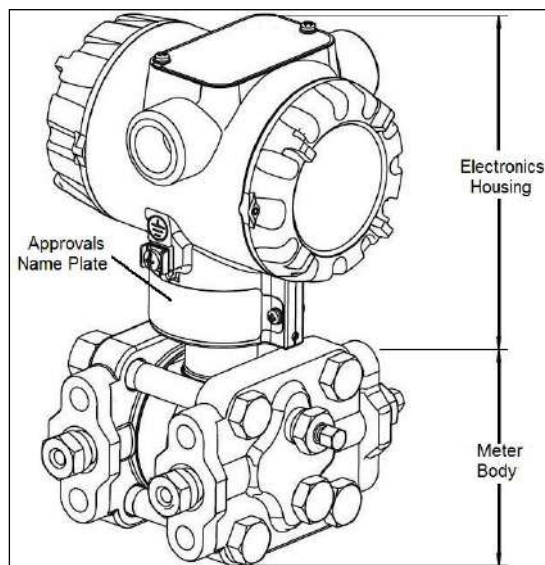
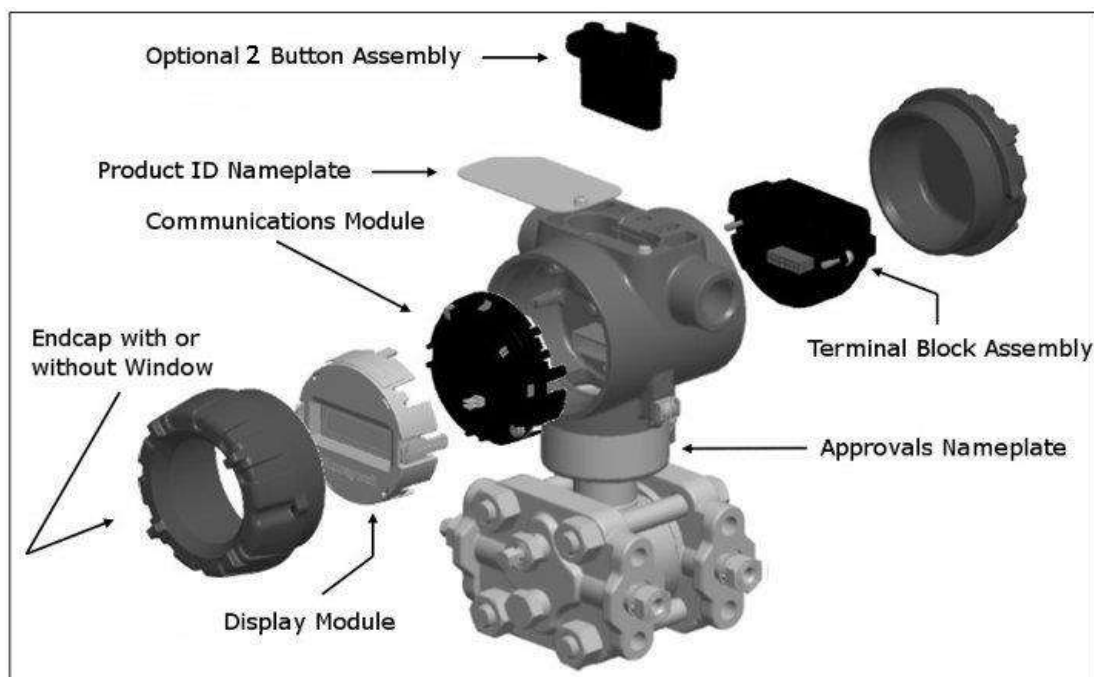
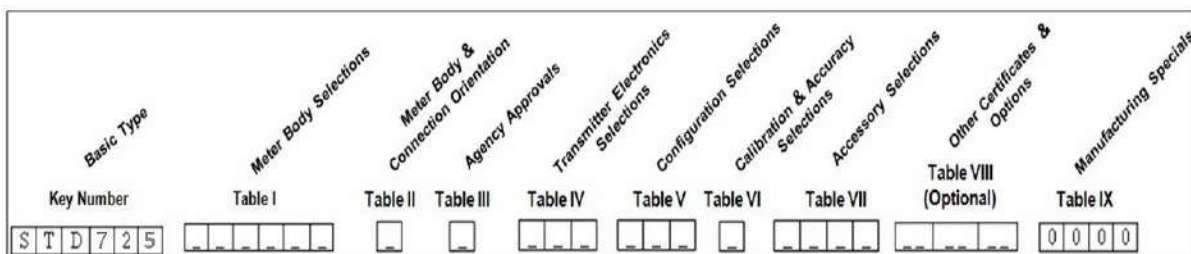

Figure 41 – ST 700 Basic Transmitter - Major Assemblies
Figure 42 – ST 700 Basic transmitter Electronics Housing Components
Figure 43 – ST 700 Basic Transmitter - Name Plate
As shown in Figure 41 the ST 700 Basic transmitter is packaged in two major assemblies: the Electronics Housing and the Meter Body. The elements in the Electronic Housing respond to setup commands and execute the software and protocol for the different pressure measurement types. Figure 42 shows the assemblies in the Electronics Housing with available options.
The Transmitter nameplate mounted on the bottom of the electronics housing (see Figure 42) lists its model number, physical configuration, electronics options, accessories, certifications, and manufacturing specialties. Figure 43 is an example of a typical Gauge Pressure (GP) or Atmospheric Pressure (AP) Transmitter name plate. The model number format consists of a Key Number with several table selections. The Differential Pressure (DP), Absolute Pressure (AP), and Gauge Pressure (GP) name plates are essentially the same. The DP model provides one additional entry (7 vs. 6) in the Meter Body Selections (Table I) to accommodate the static pressure rating.
An “approvals” name plate is located on the bottom of the Electronics Assembly; see Figure 42 exact location. The approvals name plate contains information and service marks that disclose the Transmitter compliance information.
Zero and Span adjustments are possible in ST 700 Basic Transmitter with the optional external 2-button and integrated two-button assemblies. See Figure 42 for the external 2-button assembly.